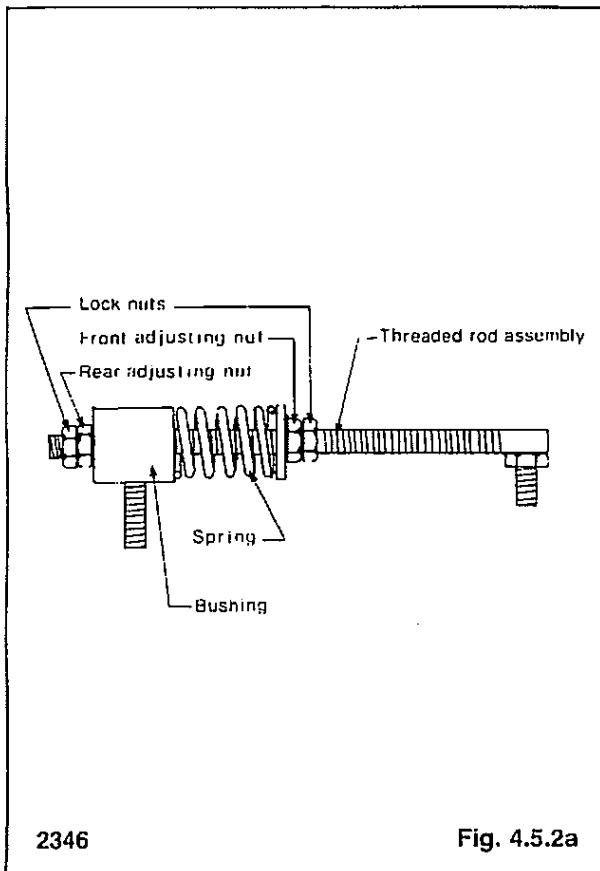

Fig. 4.5.2a
4. Raise brake handle to engage brake. Effort on the handle grip to lock the brake handle ratchet should be 75-80 lbs. pull. Adjust the nuts on the threaded rod assemblies to evenly apply brake pressure until this effort of 75-80 lbs. is achieved (Fig. 4.5.2a).
5. Release brake and allow handle to drop to lowest position. Adjust the other two 3/8" UNC nuts to ensure that no tension is applied to the brake pads when the lever is in the down position (Fig. 4.5.2a).